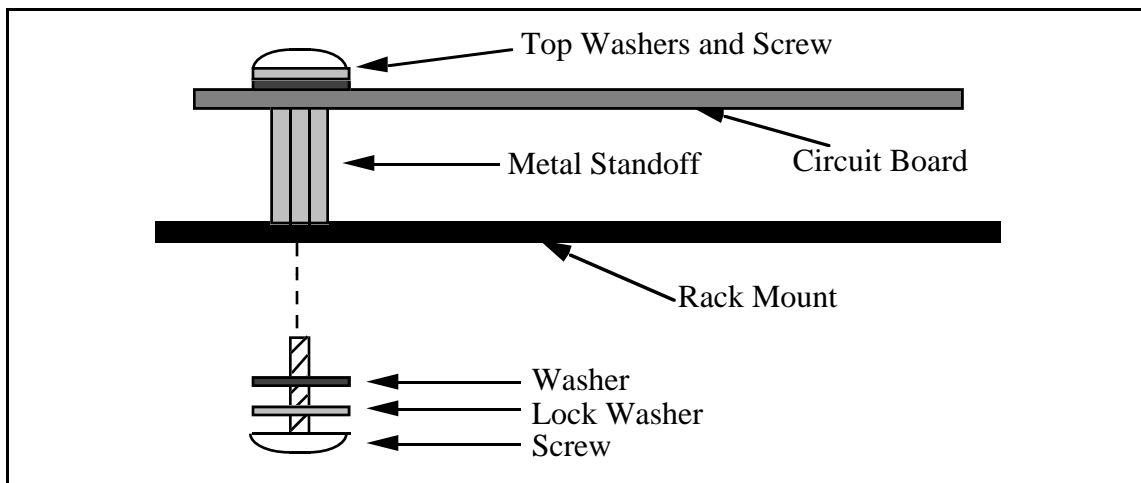

Figure 5-2. Attaching a Mountable Board to the Chassis
- b. Remove the screws on the bottoms of the four standoffs attached to the board. Use the same screws to mount your SC-206X Series board to the rack chassis as shown in Figure 5-2. Put the washers around the screws before you screw them to the rack.